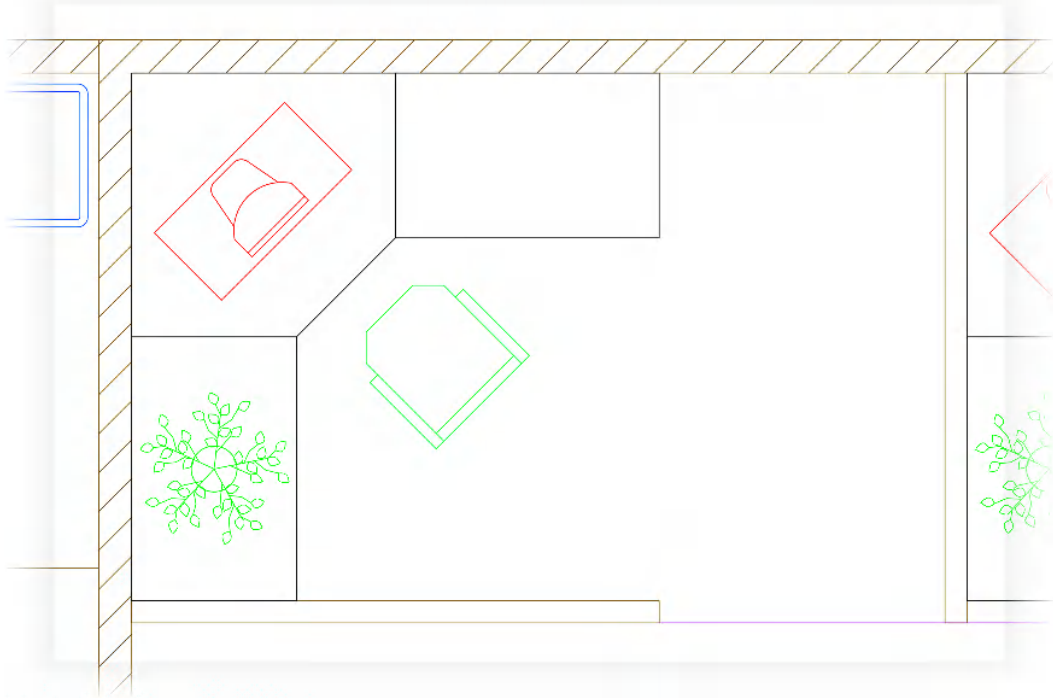

Figure 8.17: Zoomed into the Executive Office on the Model tab
1. Make sure you are in the **Model** tab of the drawing and are zoomed into the **Executive Office** area of the floor plan, as shown in *Figure 8.17*: